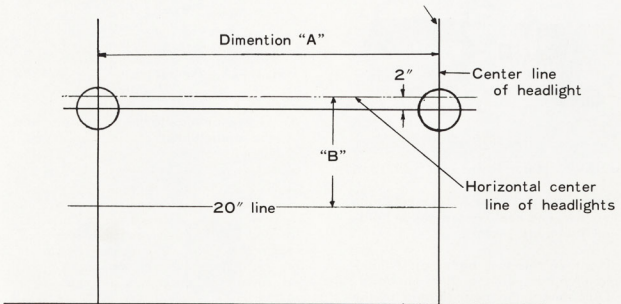

Fig.16-8 Headlight Alignment with Wall Screen
1. Establish the headlight horizontal centerline by subtracting 20 inches from the actual measured height of the headlight lens center from the floor, and adding this dimension (dimension "B" of figure 16-8) to the 20 inches reference line obtained by sighting over the uprights.
3. Then draw the headlight vertical centerlines on the screen as measured on the car (dimension "A" of figure 16-8).